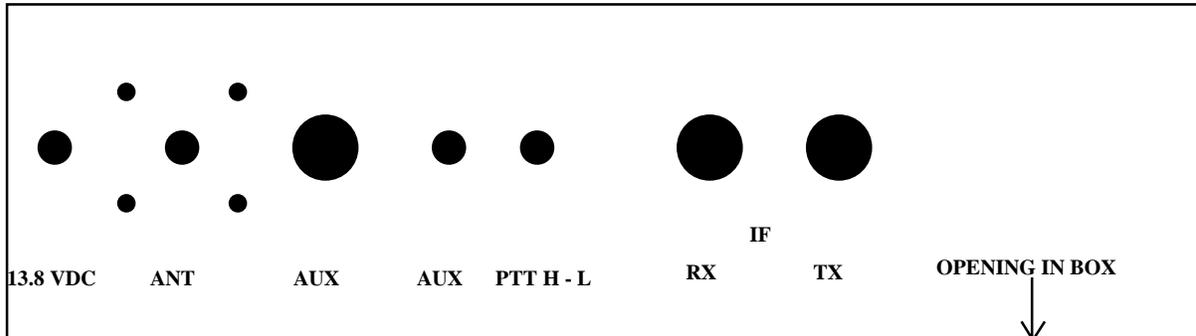

Figure 4 Jack Mounting Positions Outside View
- Insert the connector so it is flush to the box in the proper mounting hole (See Figure 4 for location).
Install the remaining rear wall mounted connectors, location per Figure 4:
- Connect the #28 Teflon wire to the wall mounted RCA PTT H- L jack, then connect a 1000pF capacitor between the center pin and solder lug and solder both leads. (See Figure 4 for jack location).
- Connect and solder a #18 Teflon wire from the wall mounted 13.8 VDC jack to the middle terminal on the wall mounted switch and solder. (See Figure 4 for jack location)
14. Attach the supplied jack / switch labels to the box by first cleaning the mounting surface with a multi-purpose household surface cleaner. Use figure 4 and 5 for placement location.